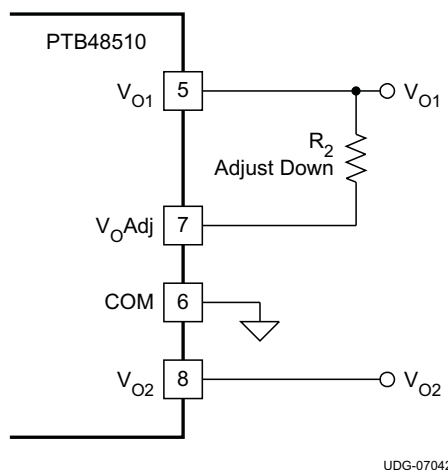

Figure 17. Adjust Down Resistor Placement
**Adjust Down:** To decrease the magnitude of both output voltages, add a resistor ( $R_2$ ), between  $V_{OAdj}$  (pin 7) and the  $V_{O1}$  (pin 5) voltage rail; see Figure 17.